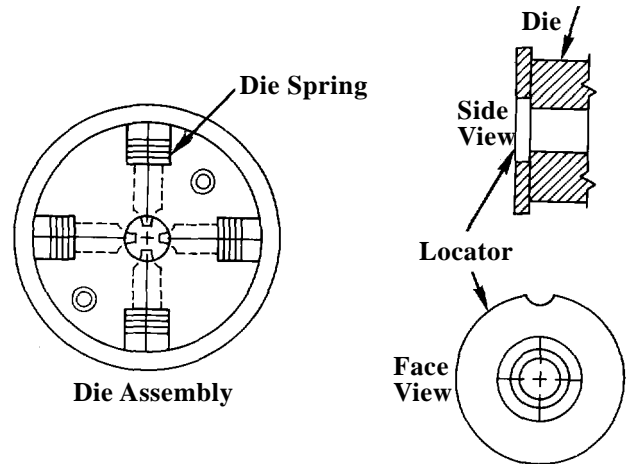

Figure 81. M22520/23-01 Accessories
117 . **Accessories.** For proper operation the tool must be mated with the proper dies and locator (Figure 81).
- b. Setup tool (Figure 81).
- c. Operate (Figure 81).